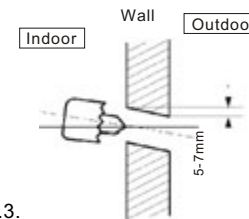

Fig. 3
3. Drill the piping hole at either the right or the left and the hole should be slightly slanted to the outdoor side, so that the outside end is lower than inside end, see Fig. 3.